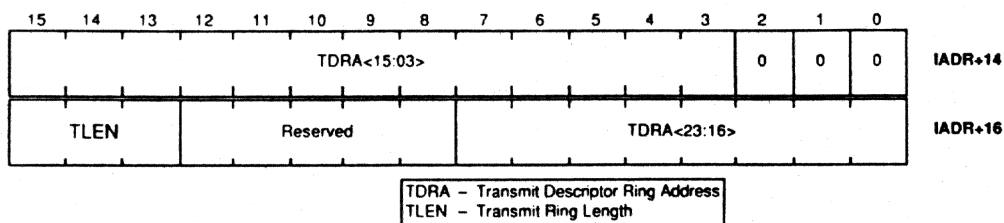

Figure 5-9: Format of the Transmit Data Ring Pointer
5.2.3.5 Transmit Descriptor Ring Pointer - This field contains information on the ring of buffer descriptors to be used for transmit operations. Figure 5-9 shows the format of the field, and Table 5-6 gives more information about each entry.